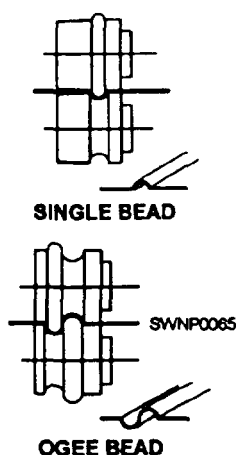

Figure 2-48.—Turning a bead with a rotary machine.
**Beading.** — BEADING (fig. 2-48) is used to give added stiffness to cylindrical sheet-metal objects for decorative purposes, or both. It can be a simple bead or an ogee (S-shaped) bead. They are made on the rotary machine using beading rolls.